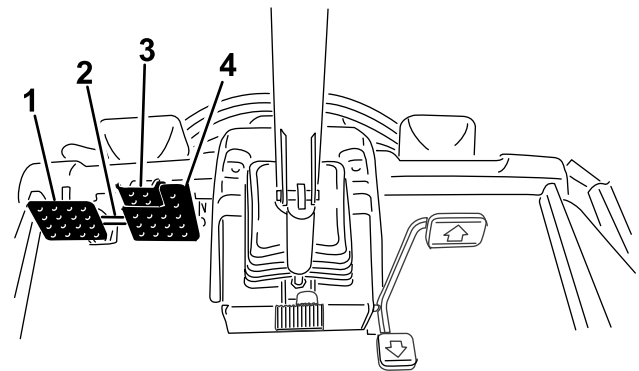

Figure 23
- Disconnect the pedal-locking latch (Figure 23).